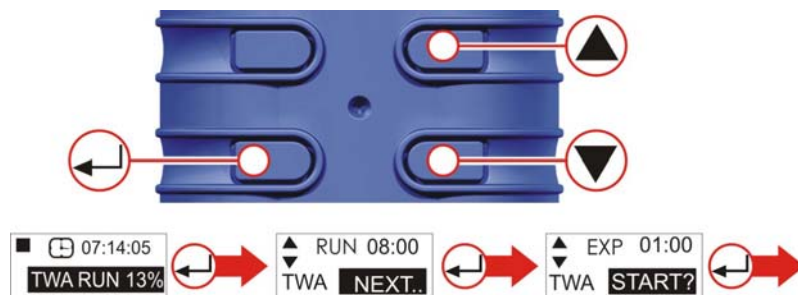

Figure 8 Time Weighted Average
E. TIME WEIGHTED AVERAGE (TWA) PRO and PLUS ONLY (Fig. 8) (Only activated when advanced mode is selected-see configuration chapter)